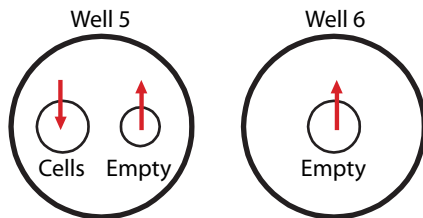

Figure 5 Cell Loading Step
2. Prepare a cell suspension of  $0.5\text{-}5 \times 10^6$  cells/ml. Completely aspirate the cell loading well (5) and outlet well (6), **making sure to carefully remove the liquid from the 2mm diameter inner holes at the bottom of the wells** (see Figure 5). *Caution:* Excessive aspiration may introduce air bubbles into the microfluidics.